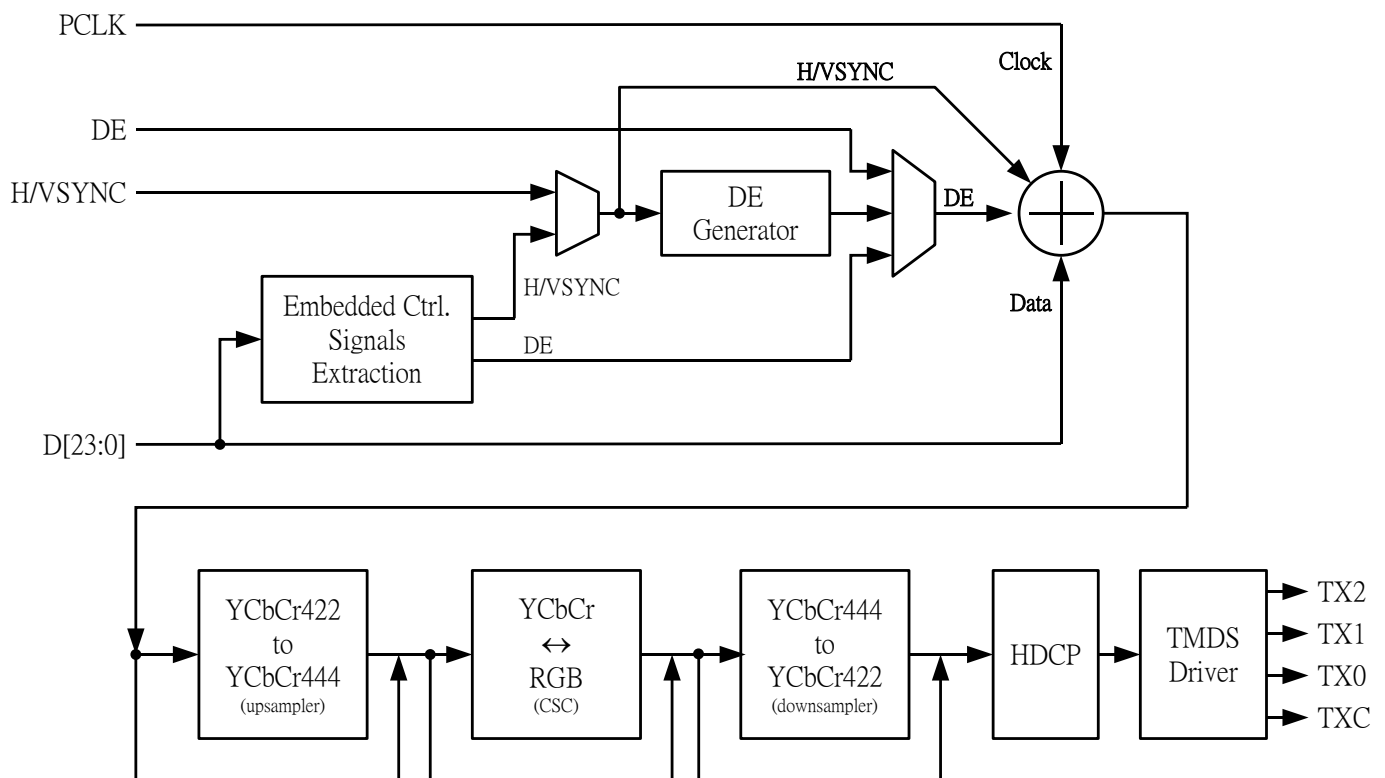

Figure 3. Video data processing flow of IT66121
Figure 3 depicts the video data processing flow. For the purpose of retaining maximum flexibility, most of the block enabling and path bypassing are controlled through register programming. Please refer to IT66121 Programming Guide for detailed and precise descriptions.
As can be seen from Figure 3, the first step of video data processing is to prepare the video data (Data), data enable signal (DE), video clock (Clock), horizontal sync and vertical sync signals (H/VSYN). While the video data and video clock are always readily available from input pins, the preparation of the data enable and sync signals require special extraction process (Embedded Ctrl. Signals Extraction & DE Generator) depending on the format of input video data.
Although not explicitly depicted in Figure 3, input video clock (PCLK) can be configured to be multiplied by 0.5, 1, 2 or 4, so as to support special formats such as CCIR-656 and pixel-repeating. This is also enabled by software programming.